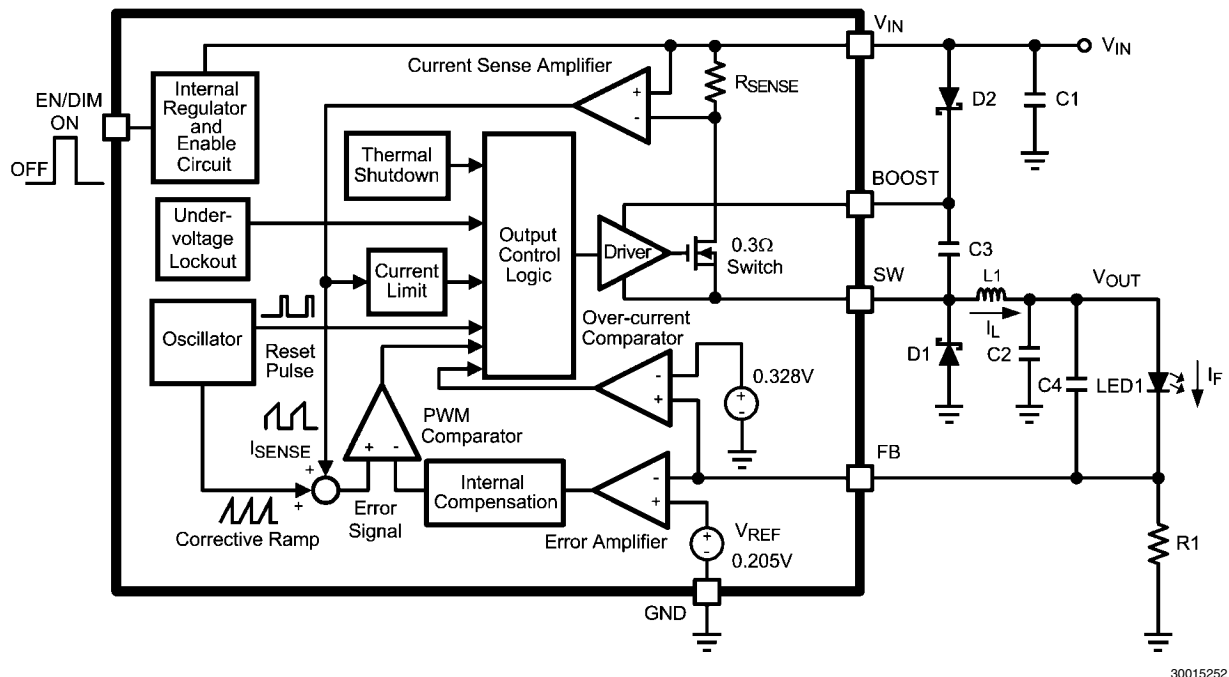
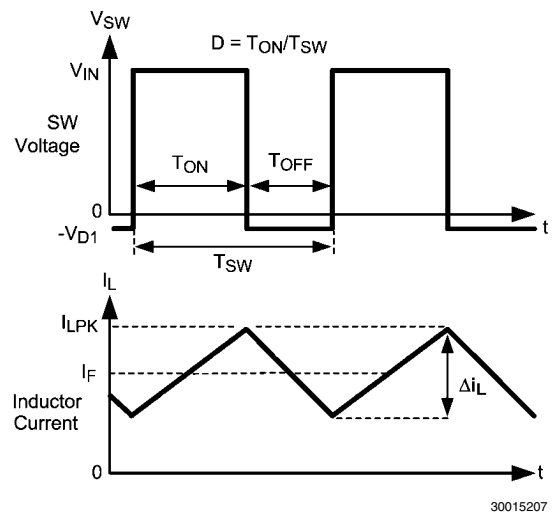

FIGURE 1. Simplified Block Diagram
FIGURE 2. SW Pin Voltage and Inductor Current Waveforms of LM3405A
The following description of operation of the LM3405A will refer to the Simplified Block Diagram (Figure 1) and to the waveforms in Figure 2. The LM3405A supplies a regulated output current by switching the internal NMOS power switch at constant frequency and variable duty cycle. A switching cycle begins at the falling edge of the reset pulse generated by the internal oscillator. When this pulse goes low, the output control logic turns on the internal NMOS power switch. During this on-time, the SW pin voltage (V_{SW}) swings up to approximately V_{IN} , and the inductor current (I_L) increases with a linear slope. I_L is measured by the current sense amplifier, which generates an output proportional to the switch current. The sense signal is summed with the regulator's corrective ramp and compared to the error amplifier's output, which is proportional to the difference between the feedback voltage and V_{REF} . When the PWM comparator output goes high, the internal power switch turns off until the next switching cycle begins. During the switch off-time, inductor current discharges through the catch diode D1, which forces the SW pin to swing below ground by the forward voltage (V_{D1}) of the catch diode. The regulator loop adjusts the duty cycle (D) to maintain a constant output current (I_F) through the LED, by forcing FB pin voltage to be equal to V_{REF} (0.205V).
Capacitor C3 and diode D2 in Figure 1 are used to generate a voltage V_{BOOST} . The voltage across C3, $V_{BOOST} - V_{SW}$, is the gate drive voltage to the internal NMOS power switch. To properly drive the internal NMOS switch during its on-time, V_{BOOST} needs to be at least 2.5V greater than V_{SW} . Large value of $V_{BOOST} - V_{SW}$ is recommended to achieve better efficiency by minimizing both the internal switch ON resistance ($R_{DS(ON)}$), and the switch rise and fall times. However, $V_{BOOST} - V_{SW}$ should not exceed the maximum operating limit of 5.5V.
The first method is shown in the Simplified Block Diagram of Figure 1. Capacitor C3 is charged via diode D2 by V_{IN} . During a normal switching cycle, when the internal NMOS power switch is off (T_{OFF}) (refer to Figure 2), V_{BOOST} equals V_{IN} minus the forward voltage of D2 (V_{D2}), during which the current in the inductor (L1) forward biases the catch diode D1 (V_{D1}). Therefore the gate drive voltage stored across C3 is:
The inductor value determines the output ripple current (Δi_L , as defined in *Figure 2*). Lower inductor values decrease the size of the inductor, but increases the output ripple current. An increase in the inductor value will decrease the output ripple current. The ratio of ripple current to LED current is optimized when it is set between 0.3 and 0.4 at 1A LED current. This ratio r is defined as: